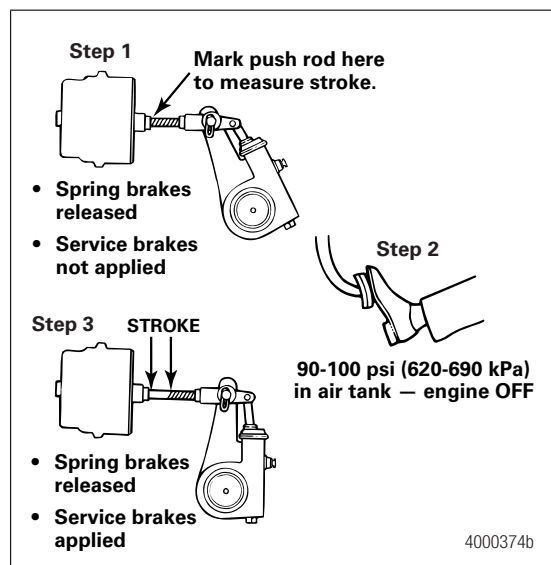

Figure 6.4
3. With the brakes released, mark the push rod where it exits the chamber. Measure and record the distance. Have another person apply and hold the brakes on full application. Figure 6.4. Hold the ruler parallel to the push rod and measure as carefully as possible. A measurement error can affect CVSA re-adjustment limits. CVSA states that "any brake 1/4-inch or more past the re-adjustment limit, or any two brakes less than 1/4-inch beyond the re-adjustment limit, will be cause for rejection."
4. Measure the push rod travel or adjusted chamber stroke from where the push rod exits the brake chamber to your mark on the push rod. Measure and record the distance. Figure 6.4.